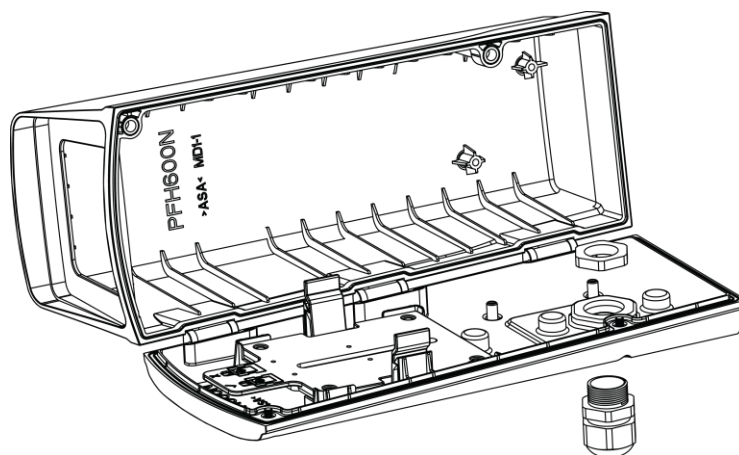

Figure 3-2
- The waterproof joint can be installed according to Figure 3-2.